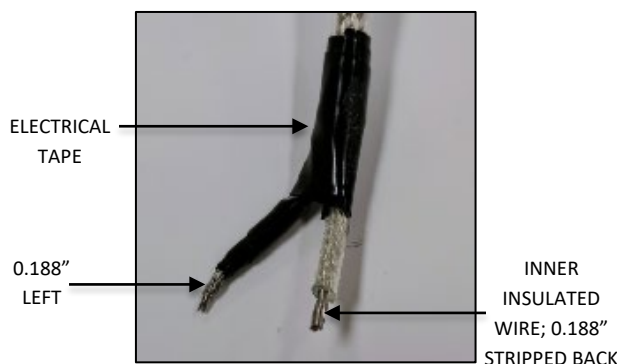
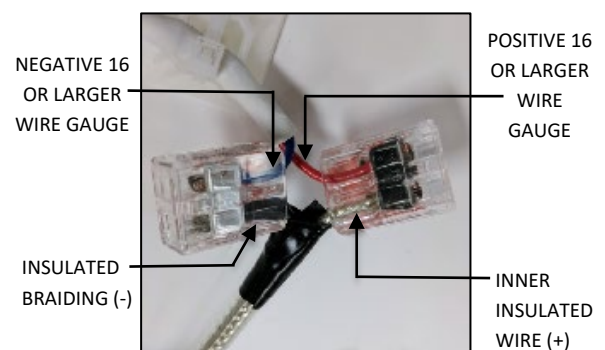

FIG. 42
FIG. 43
3. Using electrical tape, insulate the twisted strands leaving 0.188" exposed for connections. Strip off 0.188" of the inner insulation as you normally would for 18AWG stranded core wire as shown in FIG. 42 below. Connect the inner insulated wire (+) to the positive 16 gauge or larger wire ran in step 5 at the hanging bracket and Connect the outer braiding (-) to the negative 16 gauge or larger wire ran in step 5 at the hanging bracket FIG. 43 below.